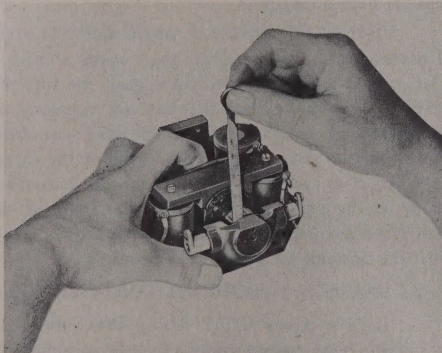

Figure 276 — Checking End Play of Armature
10. Check the end play of the armature in its bearing, using a taper gage (figure 276). If the end play is more than about .006 inch, it may be reduced by pressing the armature shaft bearing spacer (11, figure 245) farther into the frame assembly. If this end play is less than about .003 inch, the armature should be removed and the spacer pressed in the opposite direction to provide the proper end play.
11. Install intermediate pinion shaft (1) through the pinion shaft ball bearing, and slip the intermediate gear (4) on the under side of the pinion shaft after it passes through the ball bearing. Take care to line up the two tapered holes for the taper pin (5) which secures the intermediate gear to the pinion